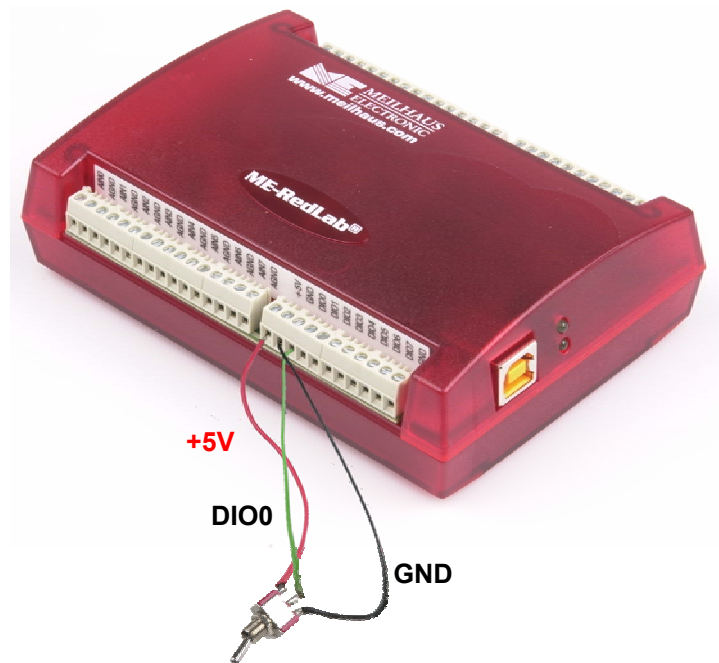
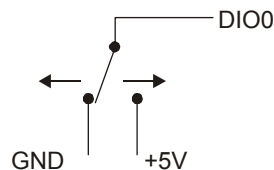

Figure 6. Digital connection DIO0 detecting the state of a switch
Figure 7. Schematic showing switch detection by digital channel DIO0
You can use the RedLab 1208HS-4AO digital I/O terminals to detect the state of any TTL-level input. Refer to the switch circuit shown in Figure 6 and the schematic shown in Figure 7. If you set the switch to the +5 V input, DIO0 reads *TRUE* (1). If you move the switch to GND, DIO0 reads *FALSE* (0).